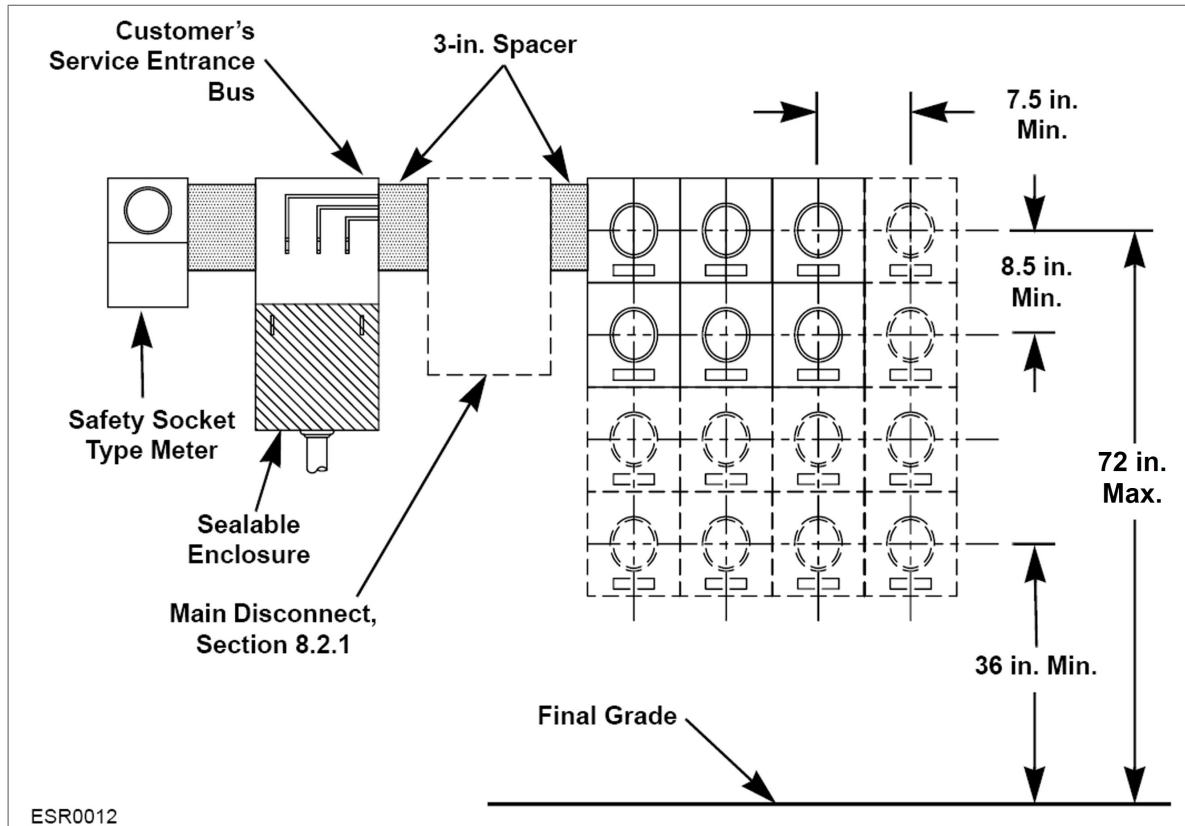

Figure 59: Meter Socket Installation for Underground and Overhead Multiple-Family Services
- The house meter must be the safety-socket type. Where the meter serves lighting only, a bypass or safety socket is not required (as **Figure 59** shows).
PGE requires a main disconnect in front of all meter banks that contain more than six meters. The main disconnect must be in the same location as the meter bank as shown in **Figure 59** above.
- A minimum 3-inch spacer is required between the disconnect or pull section and the meter socket panel, as shown in **Figure 59** above.